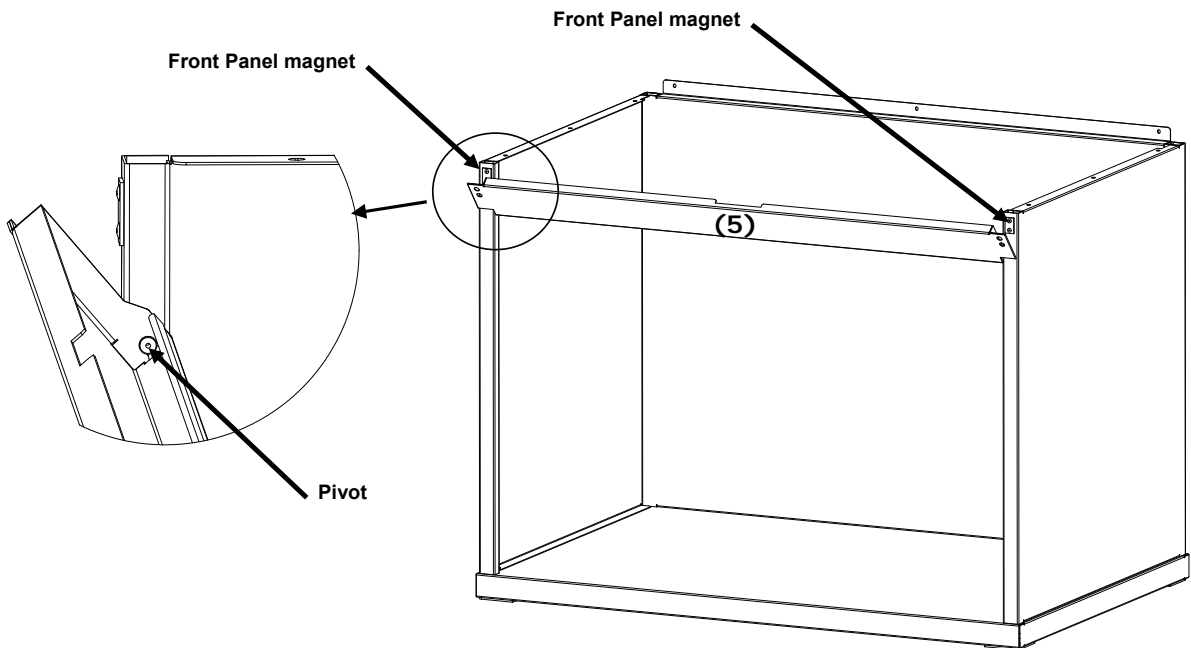

Figure 5. Front panel assembly
7. Slide the pivot slots on the front panel (5) onto the pivots located on each of the two side panels.
8. Rotate the front panel upwards toward the unit until the magnets come into contact with the front panel. See figure 5.